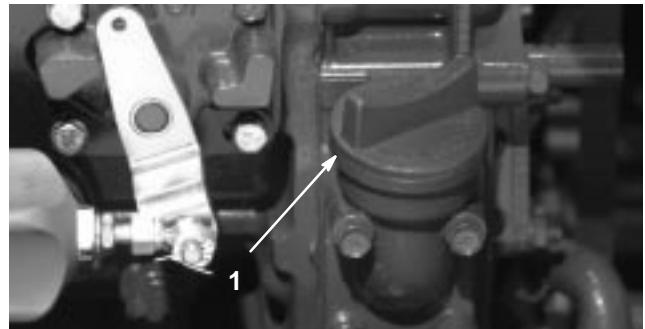

Figure 5
2. If the oil is below the FULL mark, remove the fill cap (Fig. 5) and add oil until the level reaches the FULL mark. **Do not overfill.**